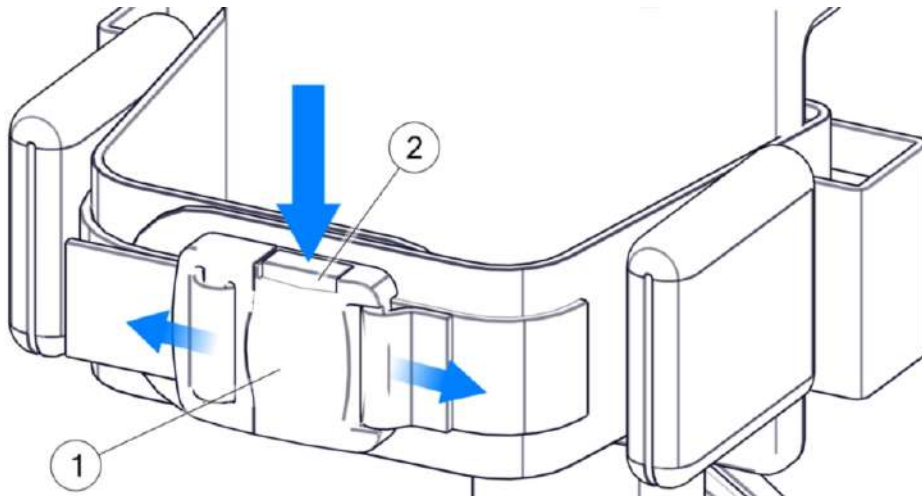

Fig. 11
Fig. 11 The trunk strap allows for stable patient support at trunk height. To release and fasten the strap buckle (1), use the lock button (2) on the upper part of the buckle. The same system is for pelvic fastening.